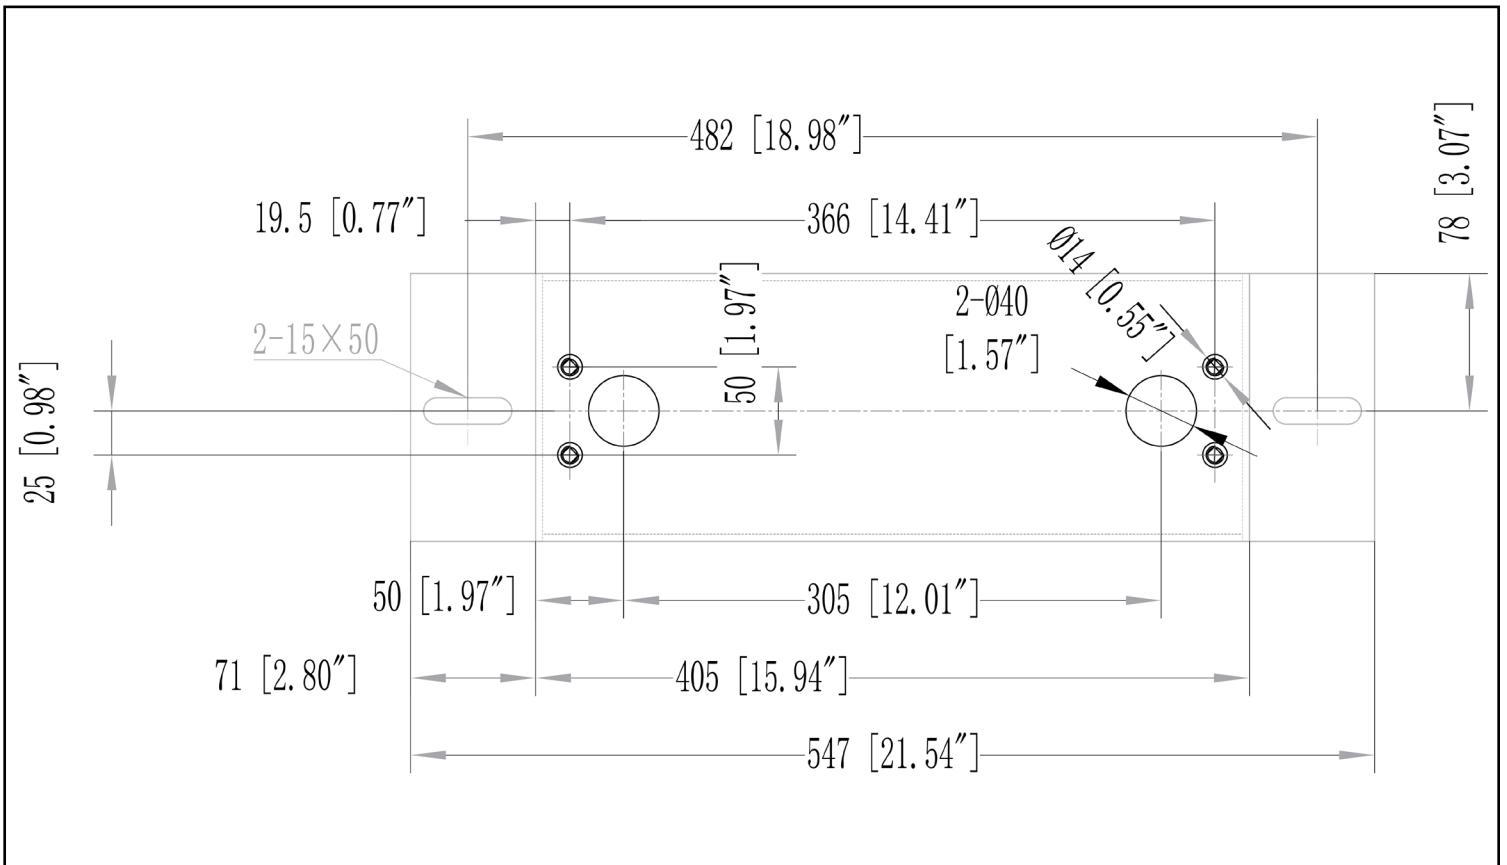

Figure 1
2. **Governor without the raised base.** Use the four 14mm (17/32") diameter holes for securing the governor to the support structure. (*see figure 1*)